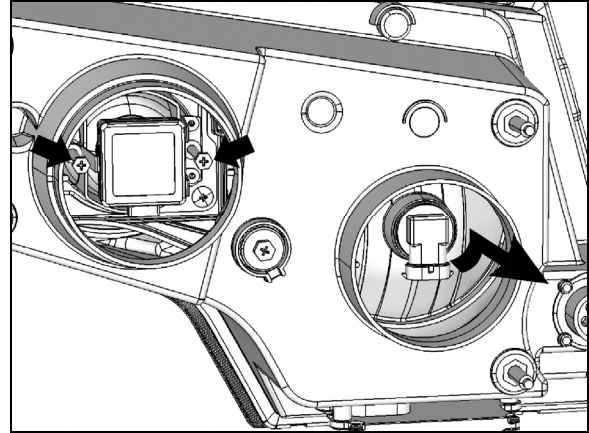

FIGURE 26: HEADLIGHT ASSEMBLY REAR VIEW 06715
5. HALOGEN: turn the bulb base counterclockwise. XENON: Unscrew the Phillips head screws indicated by arrows, pull the retainer and bulb out (fig.26).